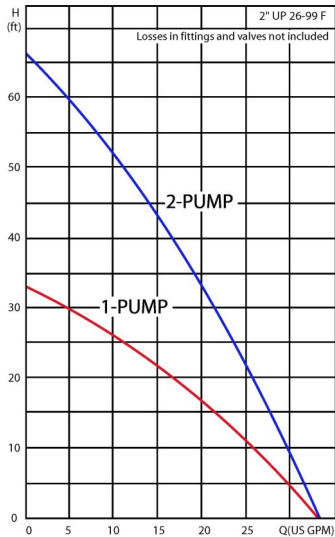

Fig. 1.
Before installing the GT® Flow Center, check the flow charts and loop table against system flow and pressure drop characteristics to be sure the correct flow center is selected for the system. A one-pump flow center can accommodate flow for 3 1/2-ton units and smaller. A two-pump flow center can accommodate flow for 3 1/2- through 6-ton units. (See Fig. 1, 2 & 3) To ensure adequate flow, the selection must be made based on your specific system design.
1. By using the flow meter tool, monitor the flow (GPM) being pumped through the entire system. If the flow is not correct, check that the proper flow center has been selected for the application using curves from Fig. 1, 2 or 3. If the pump curve indicates the proper flow center was installed and the GPM is less than the system requires, an obstruction in the system is restricting flow.